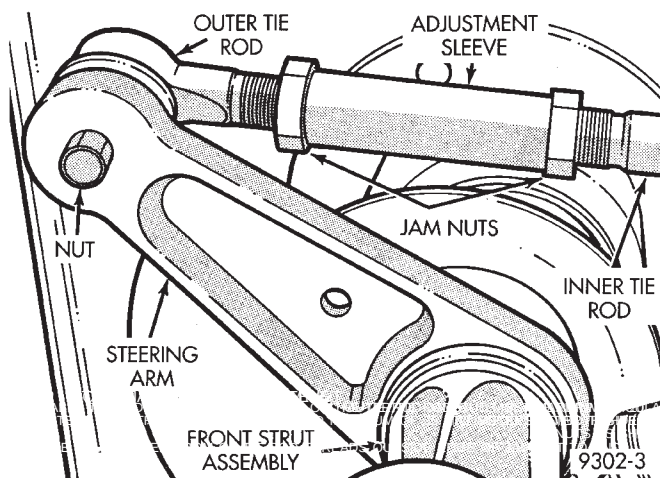

Fig. 7 Front Wheel Toe Adjustment Location
- (1) Prepare vehicle as described in the Pre-Alignment procedure.
- (2) Center steering wheel and hold with steering wheel clamp.
- (3) Loosen tie rod adjustment sleeve jamnuts. Rotate adjustment sleeve to align toe to specifications (Fig. 7).